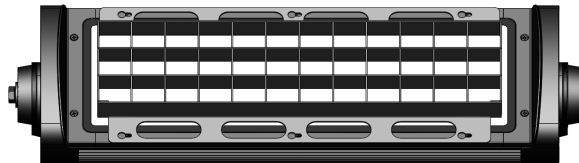

Fig 5
- 5) Reference Torque Diagram to properly secure SPH to the fixture. Use Blue Loctite 243. **Fig 5**